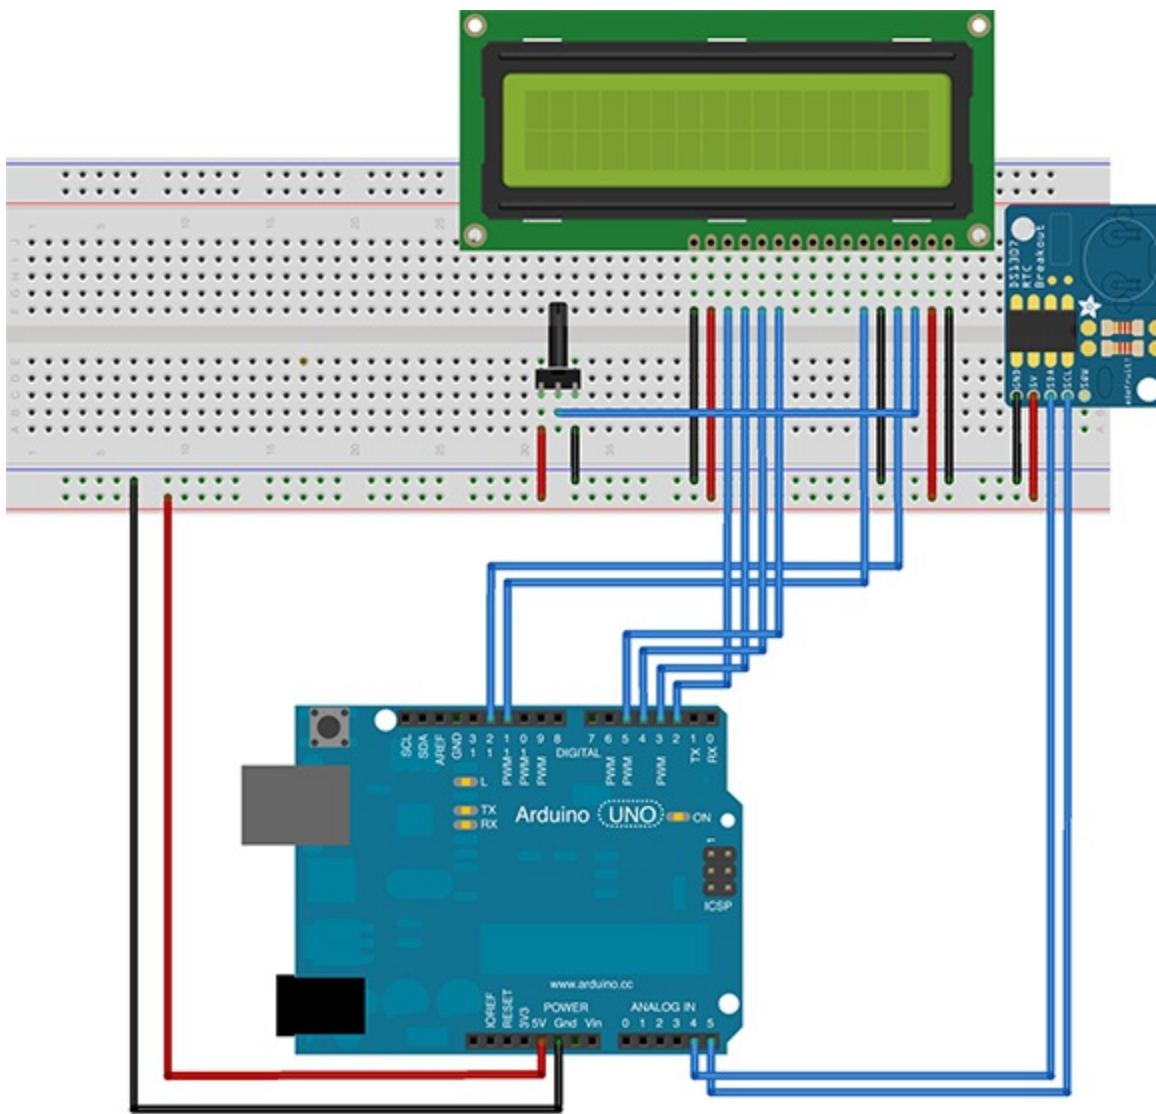

Figure 7-5: Parts placement for adding the 16 x 2 LCD display.
1. Add your LCD display and potentiometer to your breadboard roughly in the positions shown in Figure 7-5.
When this code is uploaded, you should see the message “It’s Alive!” displayed for a half-second on the LCD. If you don’t see anything, or if the display has garbled characters, you’ve connected something incorrectly. Go back to the wiring table (shown earlier, in Step 4) and Figure 7-5.